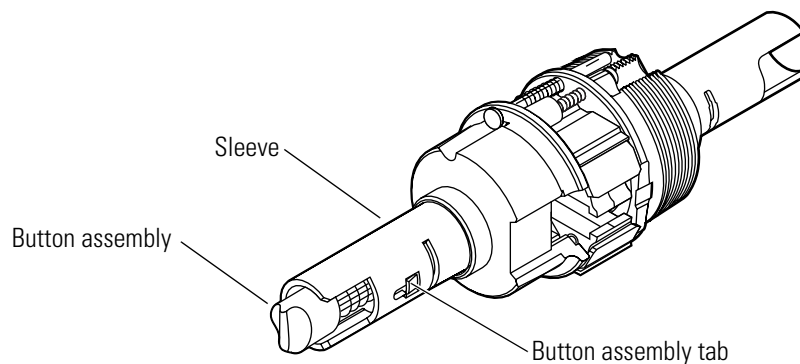

Figure 3.12 Bending the button assembly tab
2. Insert a small screwdriver into the cutout in the sleeve and under the button assembly tab. Bend the tab into the cutout, as shown in Figure 3.12.